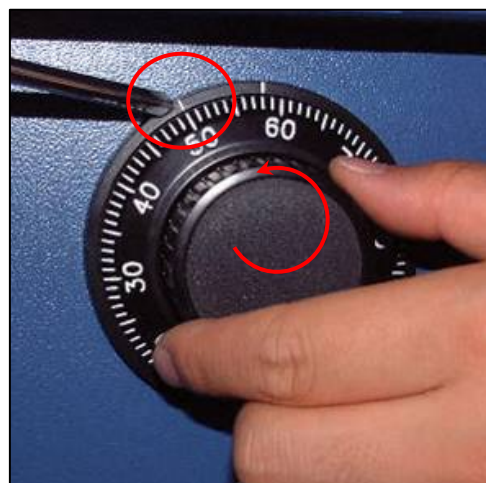

Fig.3
5. Turn to the counterclockwise and stop at "50" at the second times as shown in the Fig. 3.